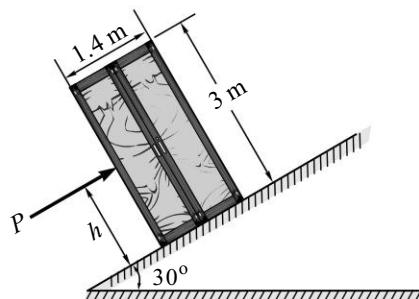

Fig. 8.E31
32. Referring to Fig. 8.E32, the coefficients of friction are as follows : 0.25 at the floor, 0.3 at the wall and 0.2 between the blocks. Find the minimum values of a horizontal force P , applied to the lower block that will hold the system in equilibrium.